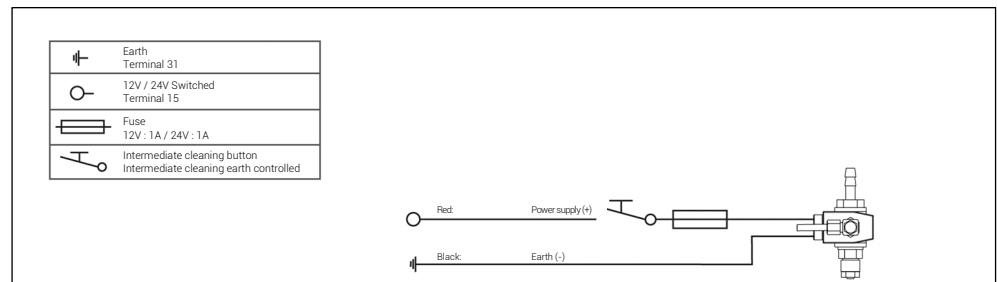
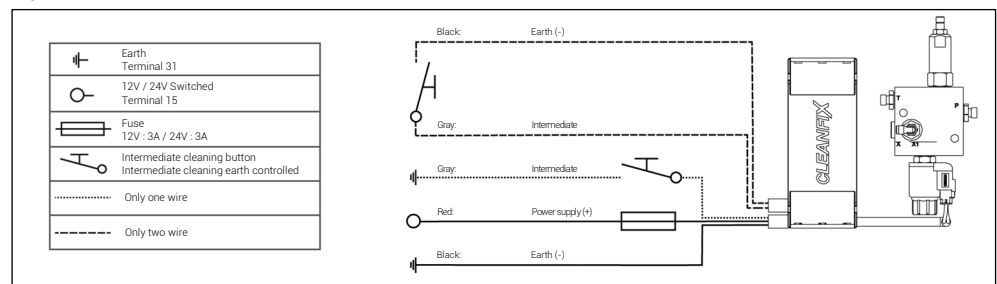

Fig. 62
Fig. 69
If a switched, fused power supply (terminal 15) with sufficient voltage (see Fig. 62 - Fig. 69) is available, it can be used.
- 40) Connect the electronic component to the machine's power supply (see Fig. 62 - Fig. 69).